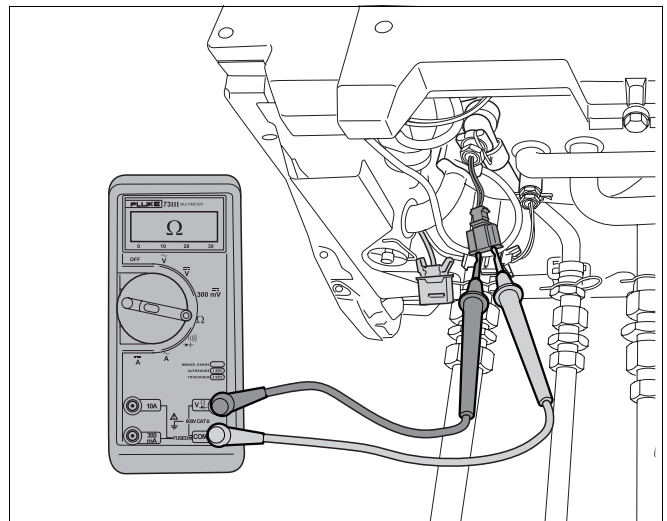
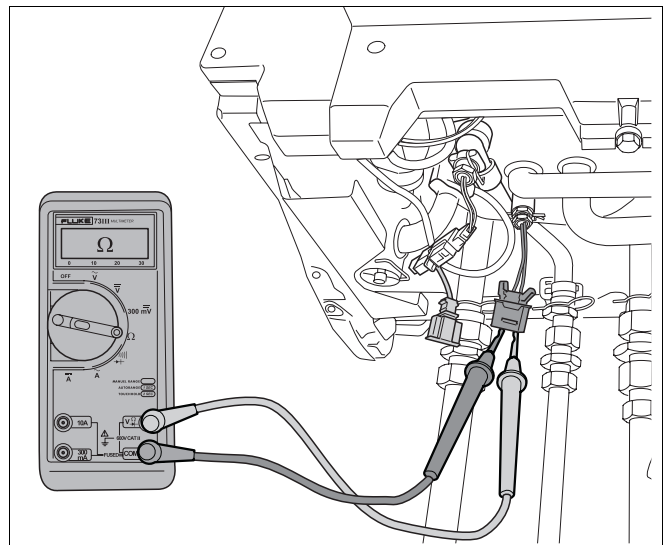

fig. 86 Measure resistance of hot water out flow sensor
fig. 87 Measure resistance of hot water heat retaining sensor
- Measure the resistance of both sensors (→ fig. 86 and fig. 87).
- Check each sensor's cable by measuring its resistance (→ fig. 87, 88, 89 and 90).